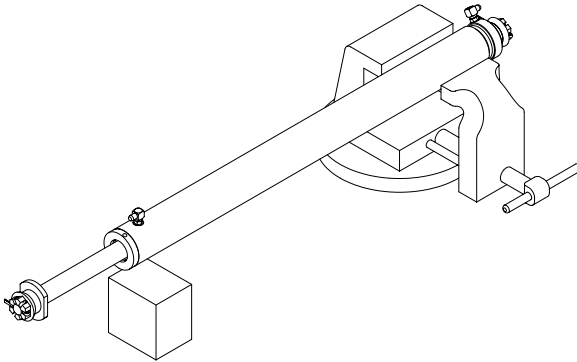

Figure 4-5, Cylinder Vise
2. Clamp the cylinder lightly at the base end in a soft jawed vise. Use a block or other support under the rod end of the cylinder. (Figure 4-5)